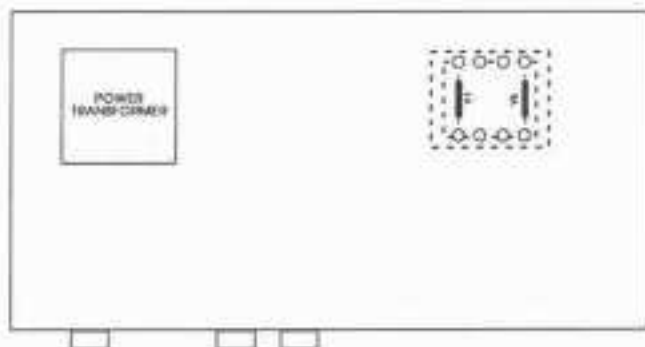

Figure 21: Transformer Mounting Area on 160XT Board
- D. Referring to Figure 21, note the mounting location of the transformer on the 160XT circuit board. Within the transformer mounting area are two jumpers (Y5 and Y7). Cut or unsolder these jumpers.